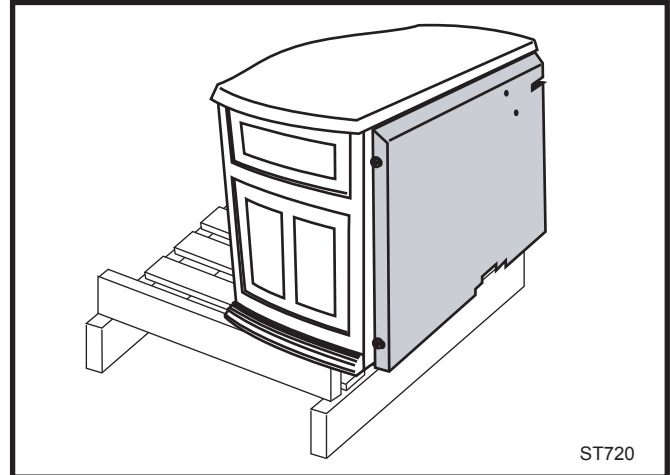

Fig. 12 Slide stove back just far enough to access rear leg holes.
1. Slide stove to the rear of the pallet just far enough to access rear leg holes. Make sure the stove does not tip over backwards. (Fig. 12)